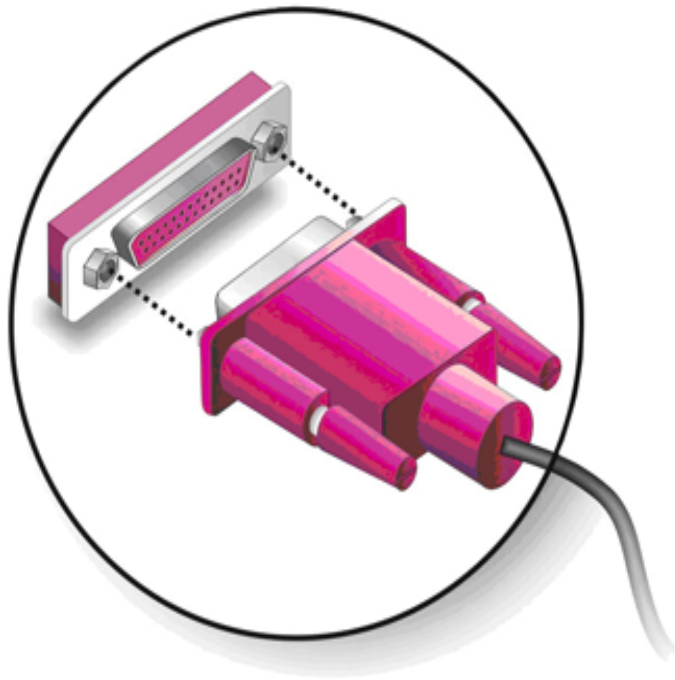

Figure 5-12: Connect the LPT Device
Step 5: Connect LPT device. Once the LPT interface connector is connected to the chassis, the LPT device can be connected to the LPT interface connector. See **Figure 5-12**